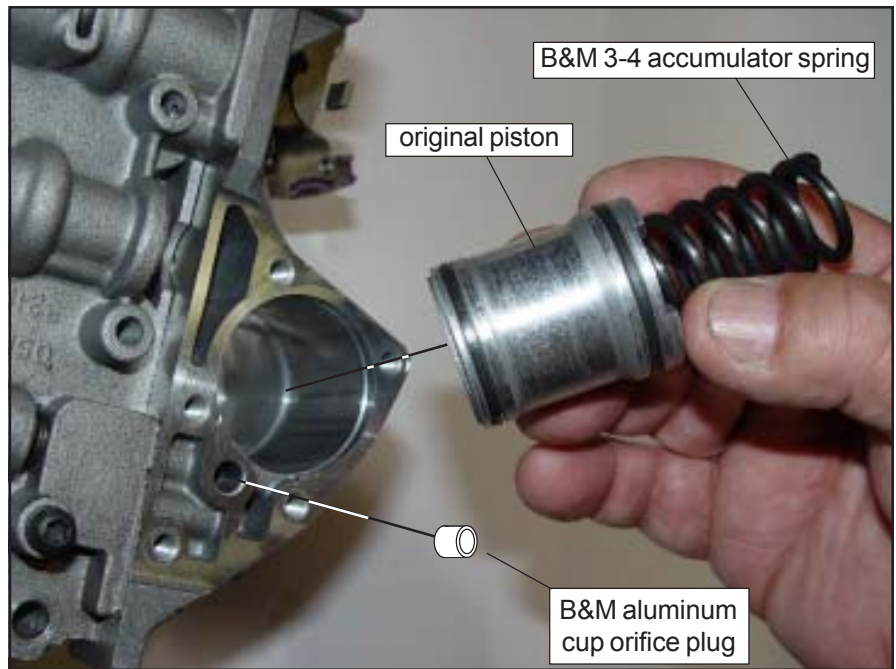

Figure 6
STEP 10. 4 Speeds ONLY: Install the piston as removed (See Figure 6) with the non-hollow end into the bore, replacing the original spring with the supplied B&M 3-4 accumulator spring. Install the B&M aluminum cup orifice plug in the location shown in figure 6 below the deck surface.